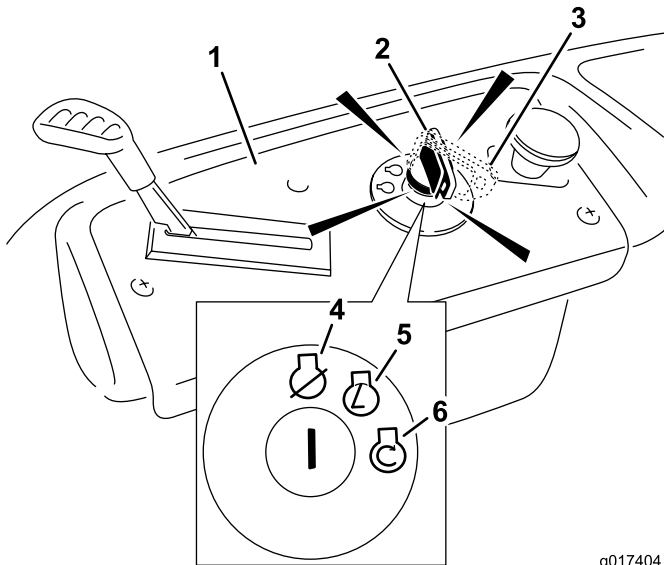

Figure 14
4. Turn the ignition key to Start to energize the starter (Figure 14).
5. After the engine starts, push down on the Choke control (Figure 14).
3. Turn the ignition key to Off (Figure 14) and remove the key.